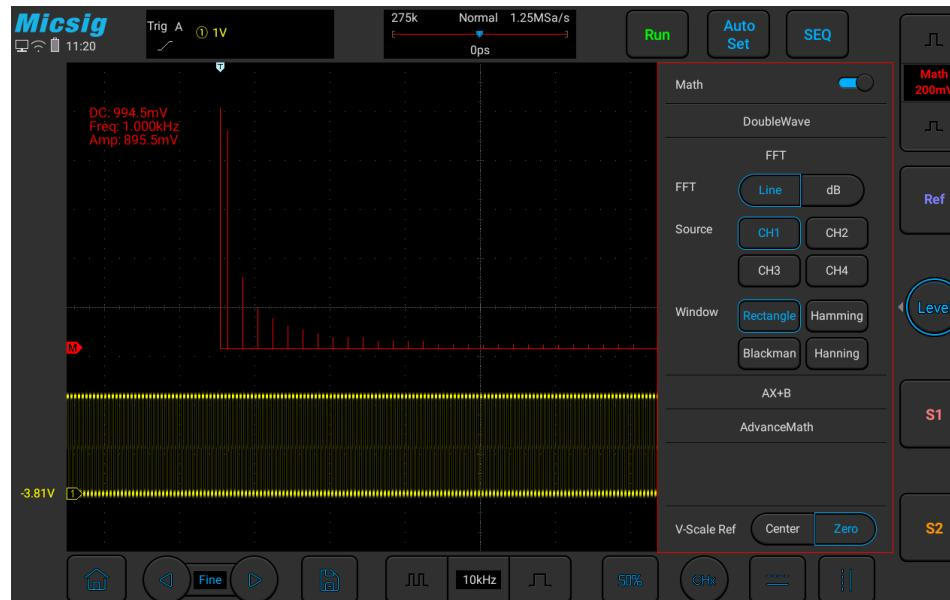

Figure 8-3 FFT Window
- 2) Tap **FFT** spectrum type “Line/Decibel” to open the FFT window (see Figure 8-3 FFT Window).